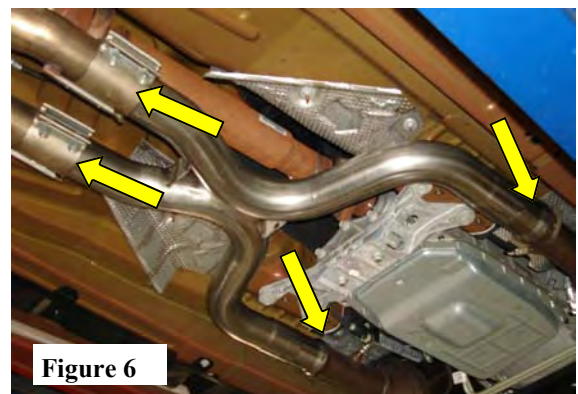

Figure 6
2. Place (2) factory Ball Clamps over front cat-pipes. Carefully insert Flared Nipples of X-pipe assembly over flared cat-pipe ends. Position Ball Clamps over pipe and lightly tighten. Position rear section of X-pipe to over-axle pipes and slide (factory) Band Clamps so they're centered over both pipes. (See Fig.6)